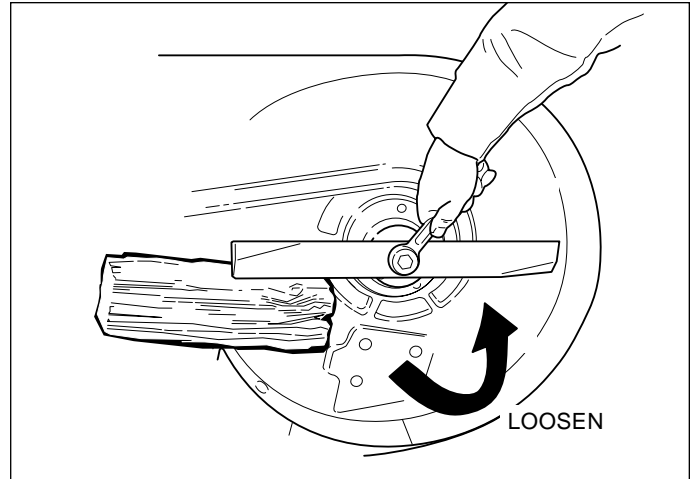

Figure 31. Removing the Blade
2. To remove blade for sharpening, use a wood block to hold blade while using two 15/16" wrenches to removing the blade mounting bolt and nut (Figure 31).